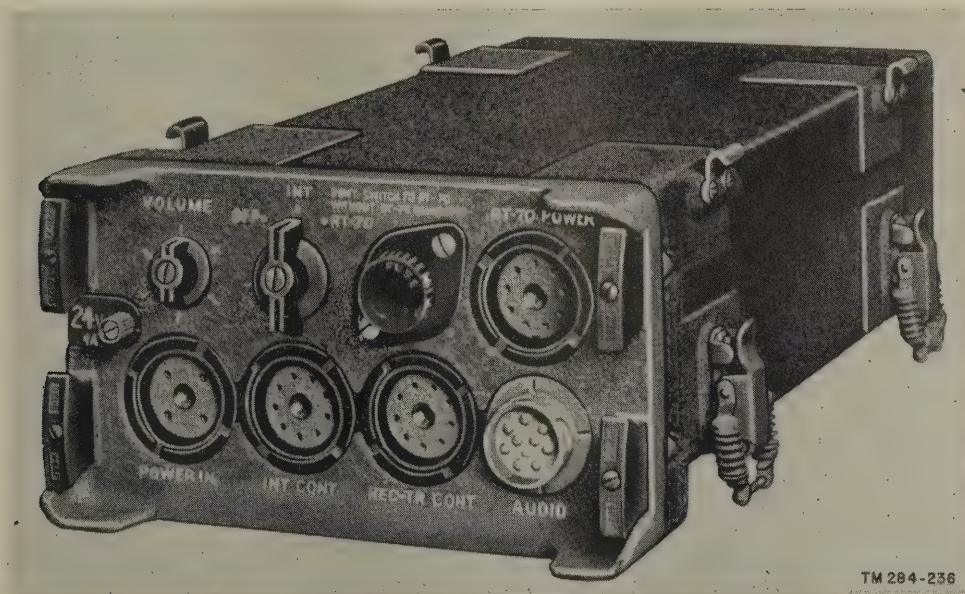

Figure 8. AF Amplifier AM-65/GRC.
a. AF Amplifiers AM-65/GRC (fig. 8) is a common component of all the radio sets described in this manual. Generally referred to as the interphone amplifier, this unit serves a dual purpose: It provides not only for intercommunication between control boxes but also for monitoring the receiver-transmitter and